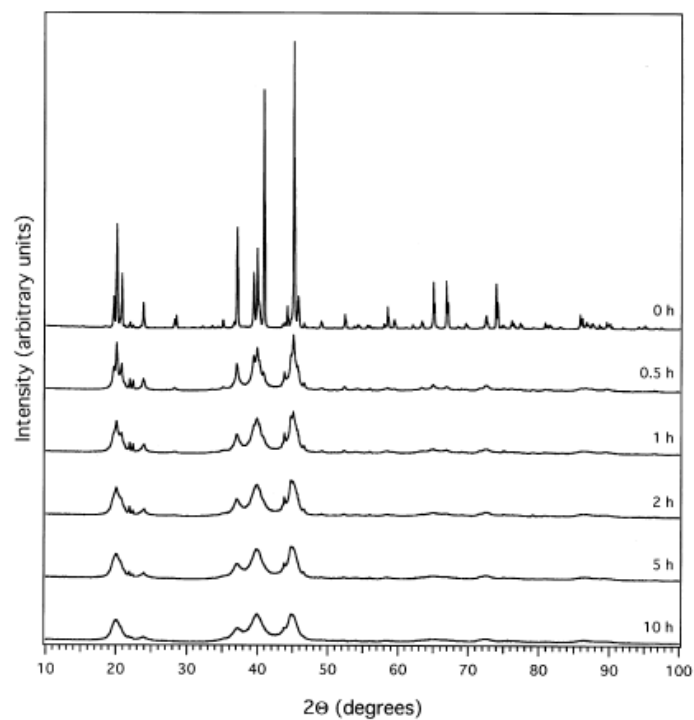

Figure 2 / Rajah 2
- [c] Figure 2 shows XRD patterns for the Mg_2Ni intermetallic ball-milled in vacuum atmosphere. Based on this data, analyse the preparation of Mg_2Ni intermetallic by ball-mill technique.